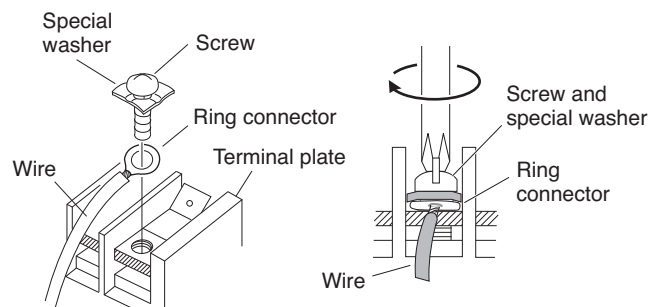

Fig. 32
- (4) Place the ring connector wire, and replace and tighten the removed terminal screw using a screwdriver. (Fig. 32)